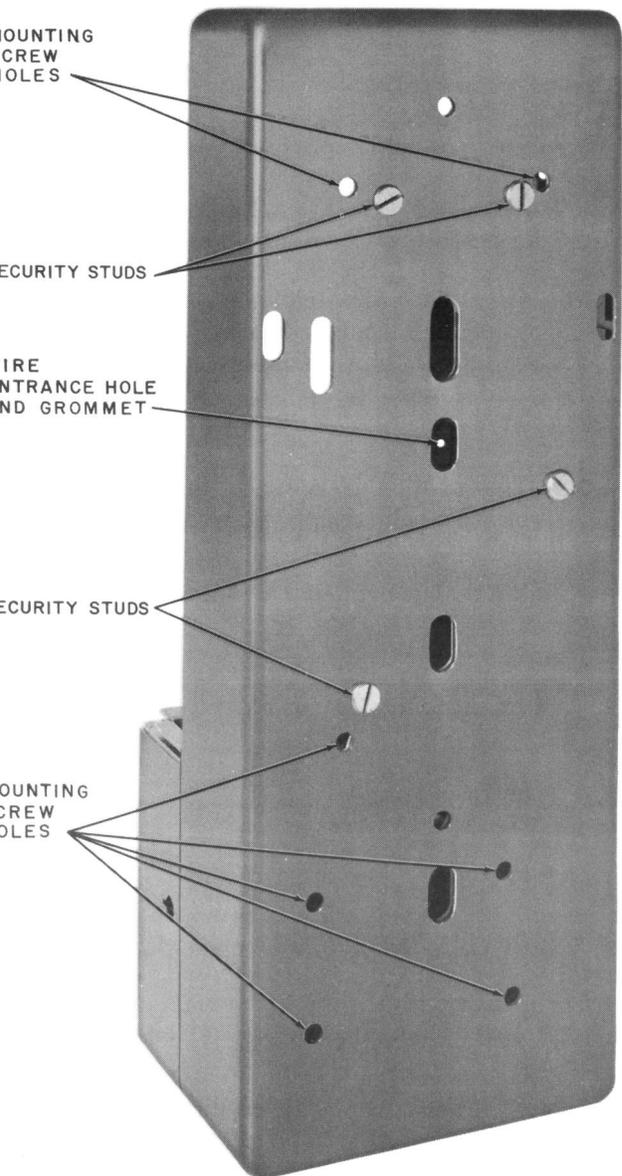

Fig. 1—Location of Mounting Screw Holes and Security Studs
3.05 Refer to Fig. 1 for mounting screw and security stud locations in the coin telephone.